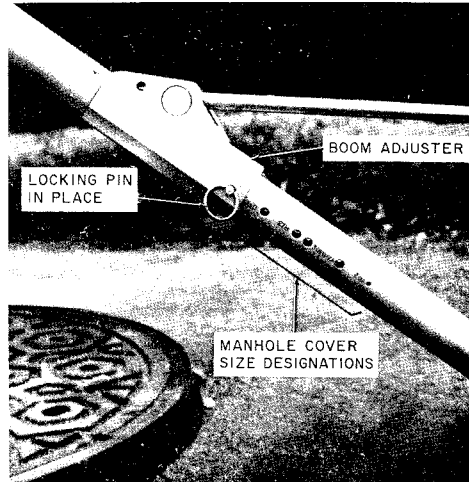
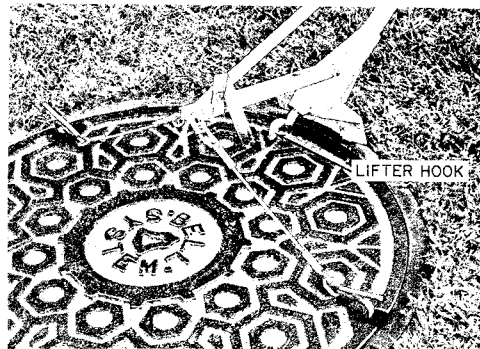

Fig. 19—Boom Adjuster Locked in Position to Remove Manhole Cover by Hook Holes
Fig. 20—Lifter Hook Rotated to Up Position
- (1) Release the strap to free the slings and allow the boom adjuster to slide down the tool handle. Slide the boom adjuster down the handle until the lower edge of the adjuster is adjacent to the cover size (stamped on handle) to be lifted. Insert a locking pin to lock the boom adjuster into position (Fig. 19). Rotate the lifter hook to the up position (Fig. 20).
6.05 To replace covers with hook holes in the rim, rotate the lifter hook to the up position and engage the sling hooks into the hook holes (Fig. 20) with the tool positioned nearest the manhole frame. Position the boom adjuster as described in paragraph 5.08 (1). Press downward on the tool handle until the cover is clear of the ground and, while maintaining pressure on the handle, walk sideways, rotating the cover toward the manhole frame.